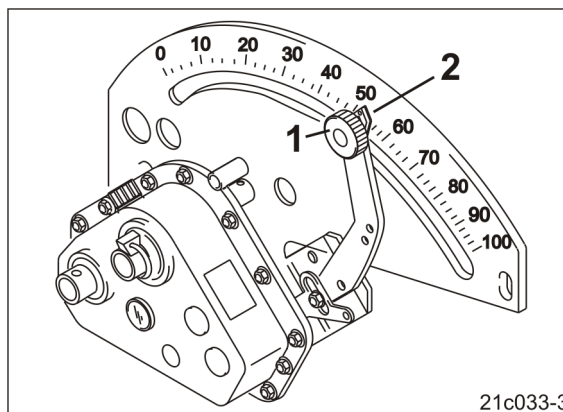

Fig. 221
4. Set the pointer (Fig. 221/2) of the gearbox lever to the gearbox setting value 100.
5. Firmly tighten the locking knob (Fig. 221/1).